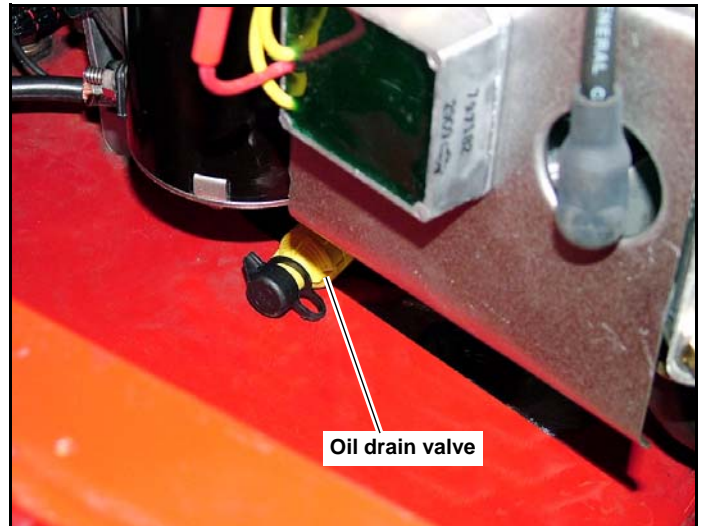

Fig. 4-3
A. Draining the engine oil (units equipped with oil drain valve as shown in Fig. 4-3).
1. Locate the oil drain valve on the lower left side of the engine. Fig. 4-3